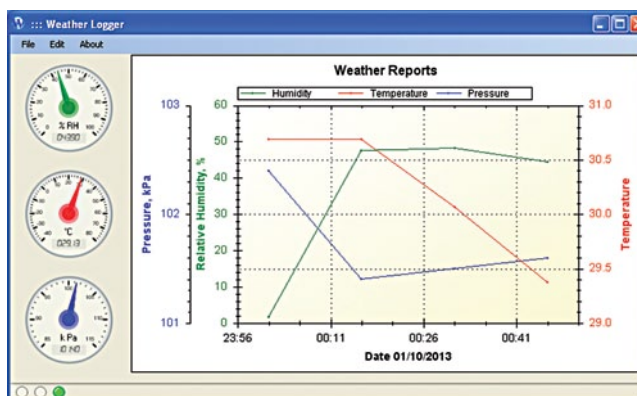

Fig. 1: Screenshot of weather logger graph
6. Displays a graph in the PC as shown in Fig. 1
the screen. The microcontroller stores the values of temperature, pressure and humidity every 30 minutes up to 35 hours. When this system is connected to PC via USB, all stored values of temperature, pressure and humidity are transferred to the GUI program. This program displays these values in the form of a graph on the PC screen. The 'time' is shown on the x-axis, and humidity, pressure and temperature are shown in y-axis as shown in Fig. 1.